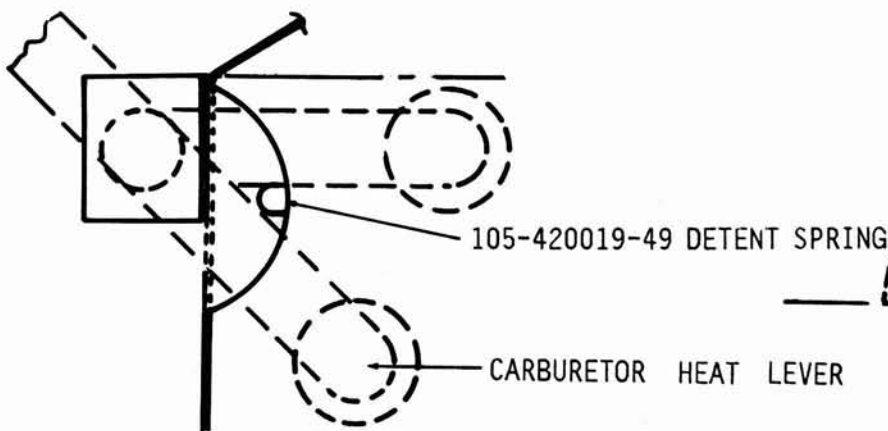

Figure 1
2. Position a P/N 105-420019-49 detent spring between the carburetor heat levers as shown in Figure 1. Ensure that the spring is positioned so that the edge of the lever passes the detent portion of the spring in both the ON and OFF positions.